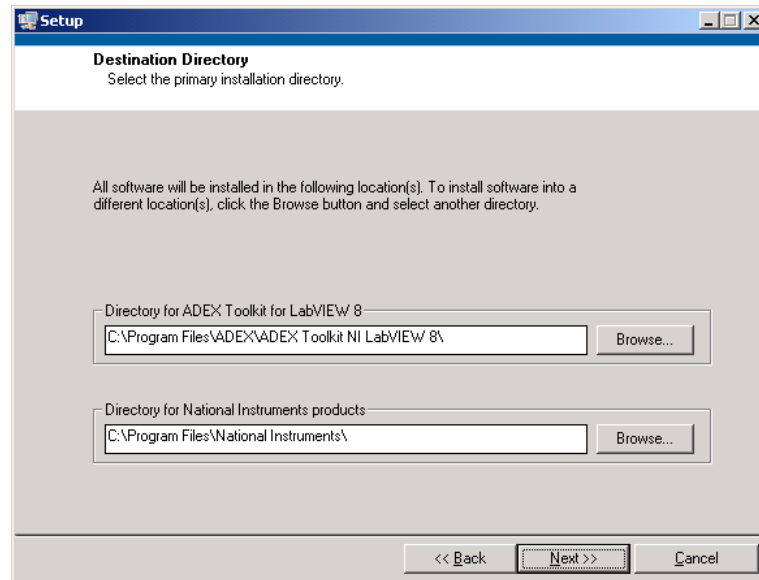

FIGURE 1 – ADEX TOOLKIT SETUP
3. Specify the ADEX COP 2 Configurator directory: this must be within the ADEX directory as shown in Figure 1.